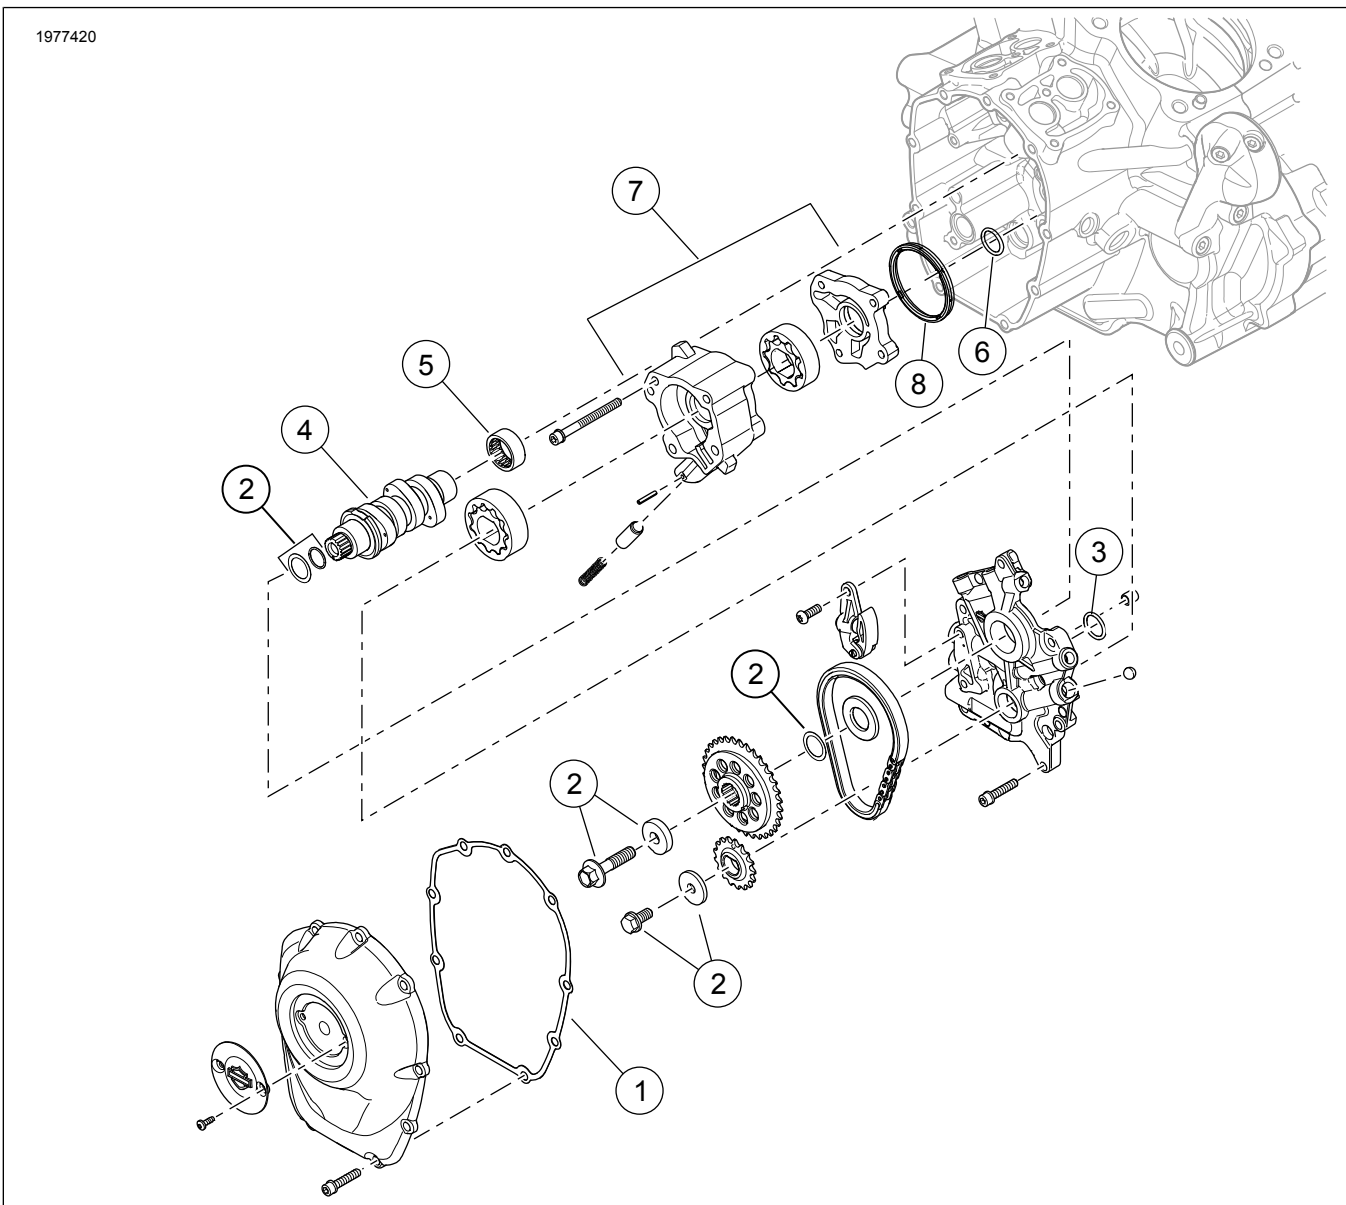

Figure 3. Kit Contents: Cam Compartment: Screamin' Eagle 128/131CI Stage IV Components
2. Install camshaft needle bearing (5).
3. See Figure 3. Install oil pump.